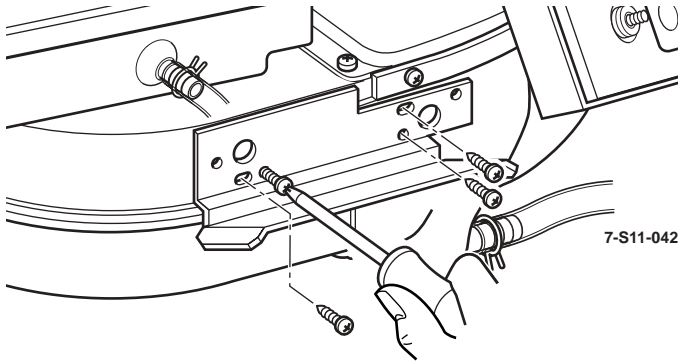

Figure 11-72: Lower Support Bracket Removal
3. Remove lower support bracket from HVAC case (Figure 11-72).